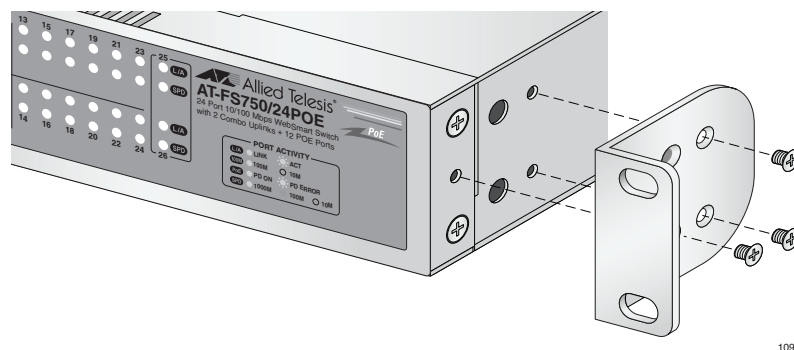

Figure 9. Attaching the Rack-Mount Bracket
2. Install a bracket on one side of the switch using a Phillips screwdriver and three of the rack-mount screws included with the switch. Figure 9 shows how to mount the brackets on the switch.